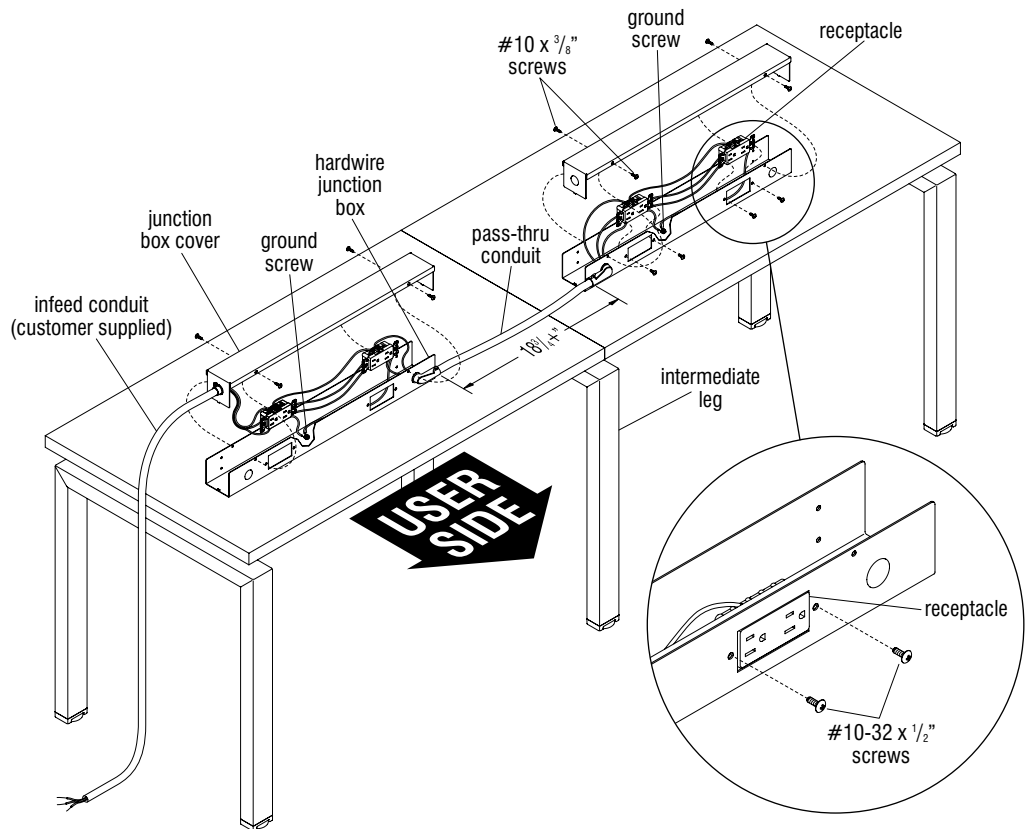

Figure 32
1. Place hardwire junction boxes onto the worksurfaces and stage boxes in the order and location specified by the space-planning layout. Remove the junction box covers and set aside (Figure 32).
3. Different receptacles (customer supplied) will wire differently. Depending on the type of receptacle used, determine if the individual wires will attach to the receptacle before or after they are mounted to the specified locations in the hardwire boxes. To mount receptacles to the box, position receptacles inside the box with the receptacle face through the opening, then secure the box to the receptacle using two #10-32 x  $\frac{1}{2}$ " screws (see inset detail, Figure 32).
4. Complete the wiring of receptacles, then secure the covers to the hardwire junction boxes using #10 x  $\frac{3}{8}$ " screws at all required locations per box as illustrated (Figure 32).